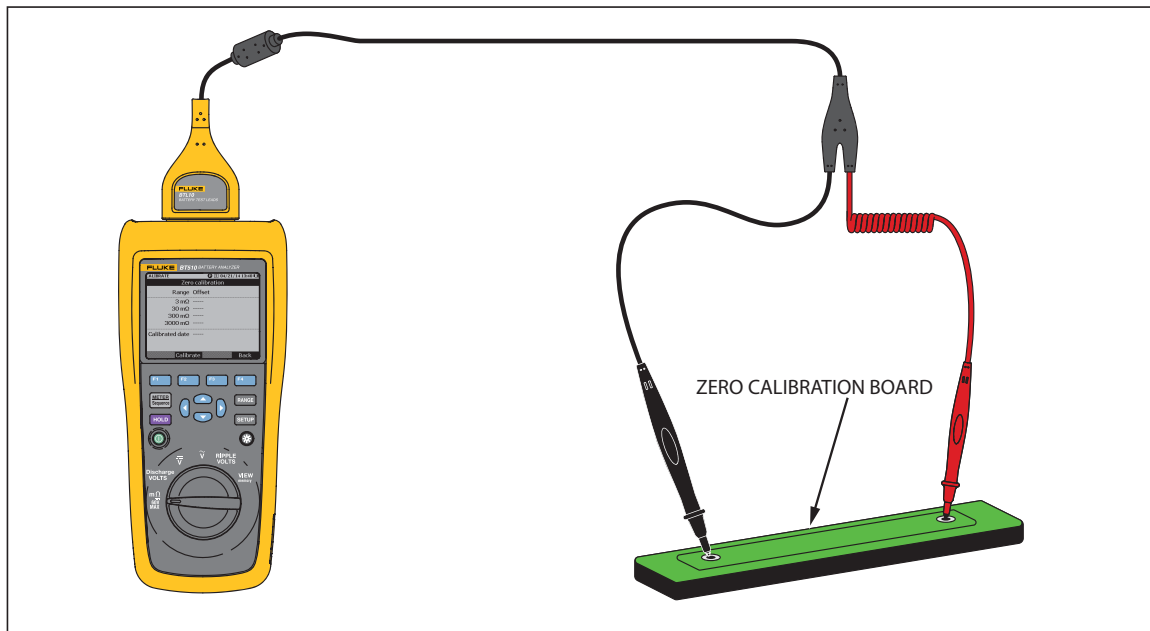

Figure 6-4. Zero Calibration Setup
1. Locate the zero calibration board on a flat surface horizontally. See Figure 6-4.